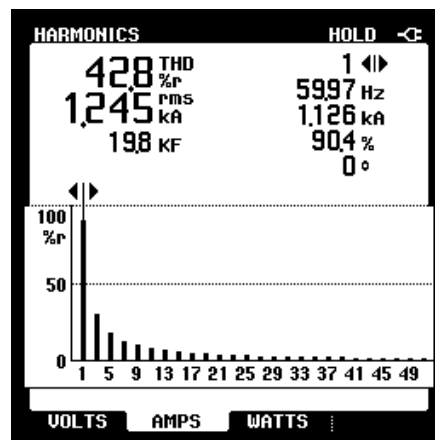

Figure 4-11. Bargraph Harmonics Ampere
8. Check the bar graph look like the one in Figure 4-11.